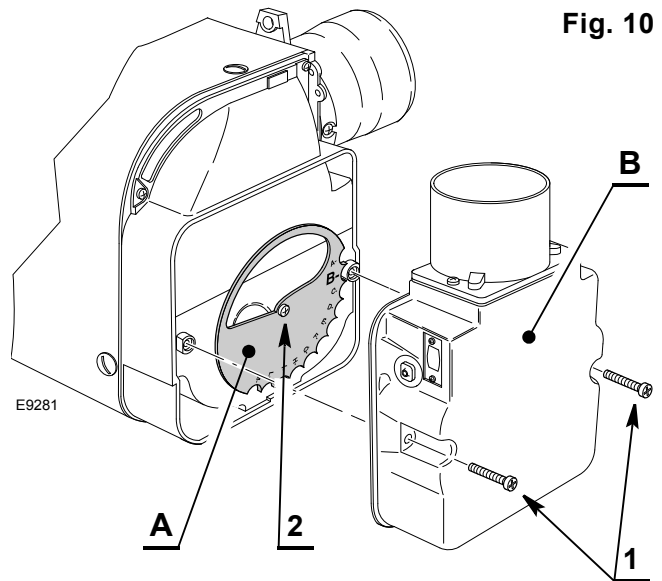

Fig. 10
The air setting is performed by mean of two independent dampers (see fig. 10 and 11).
MAIN AIR DAMPER (A) - fig. 10